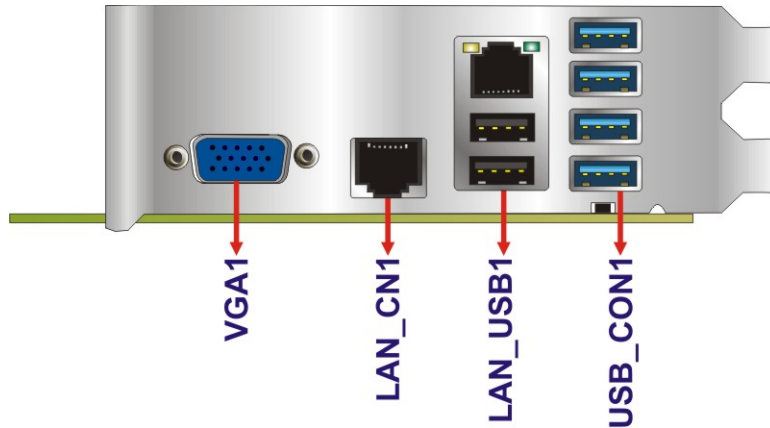

Figure 3-18: External Peripheral Interface Connector
- CN Location:** See **Figure 3-18**